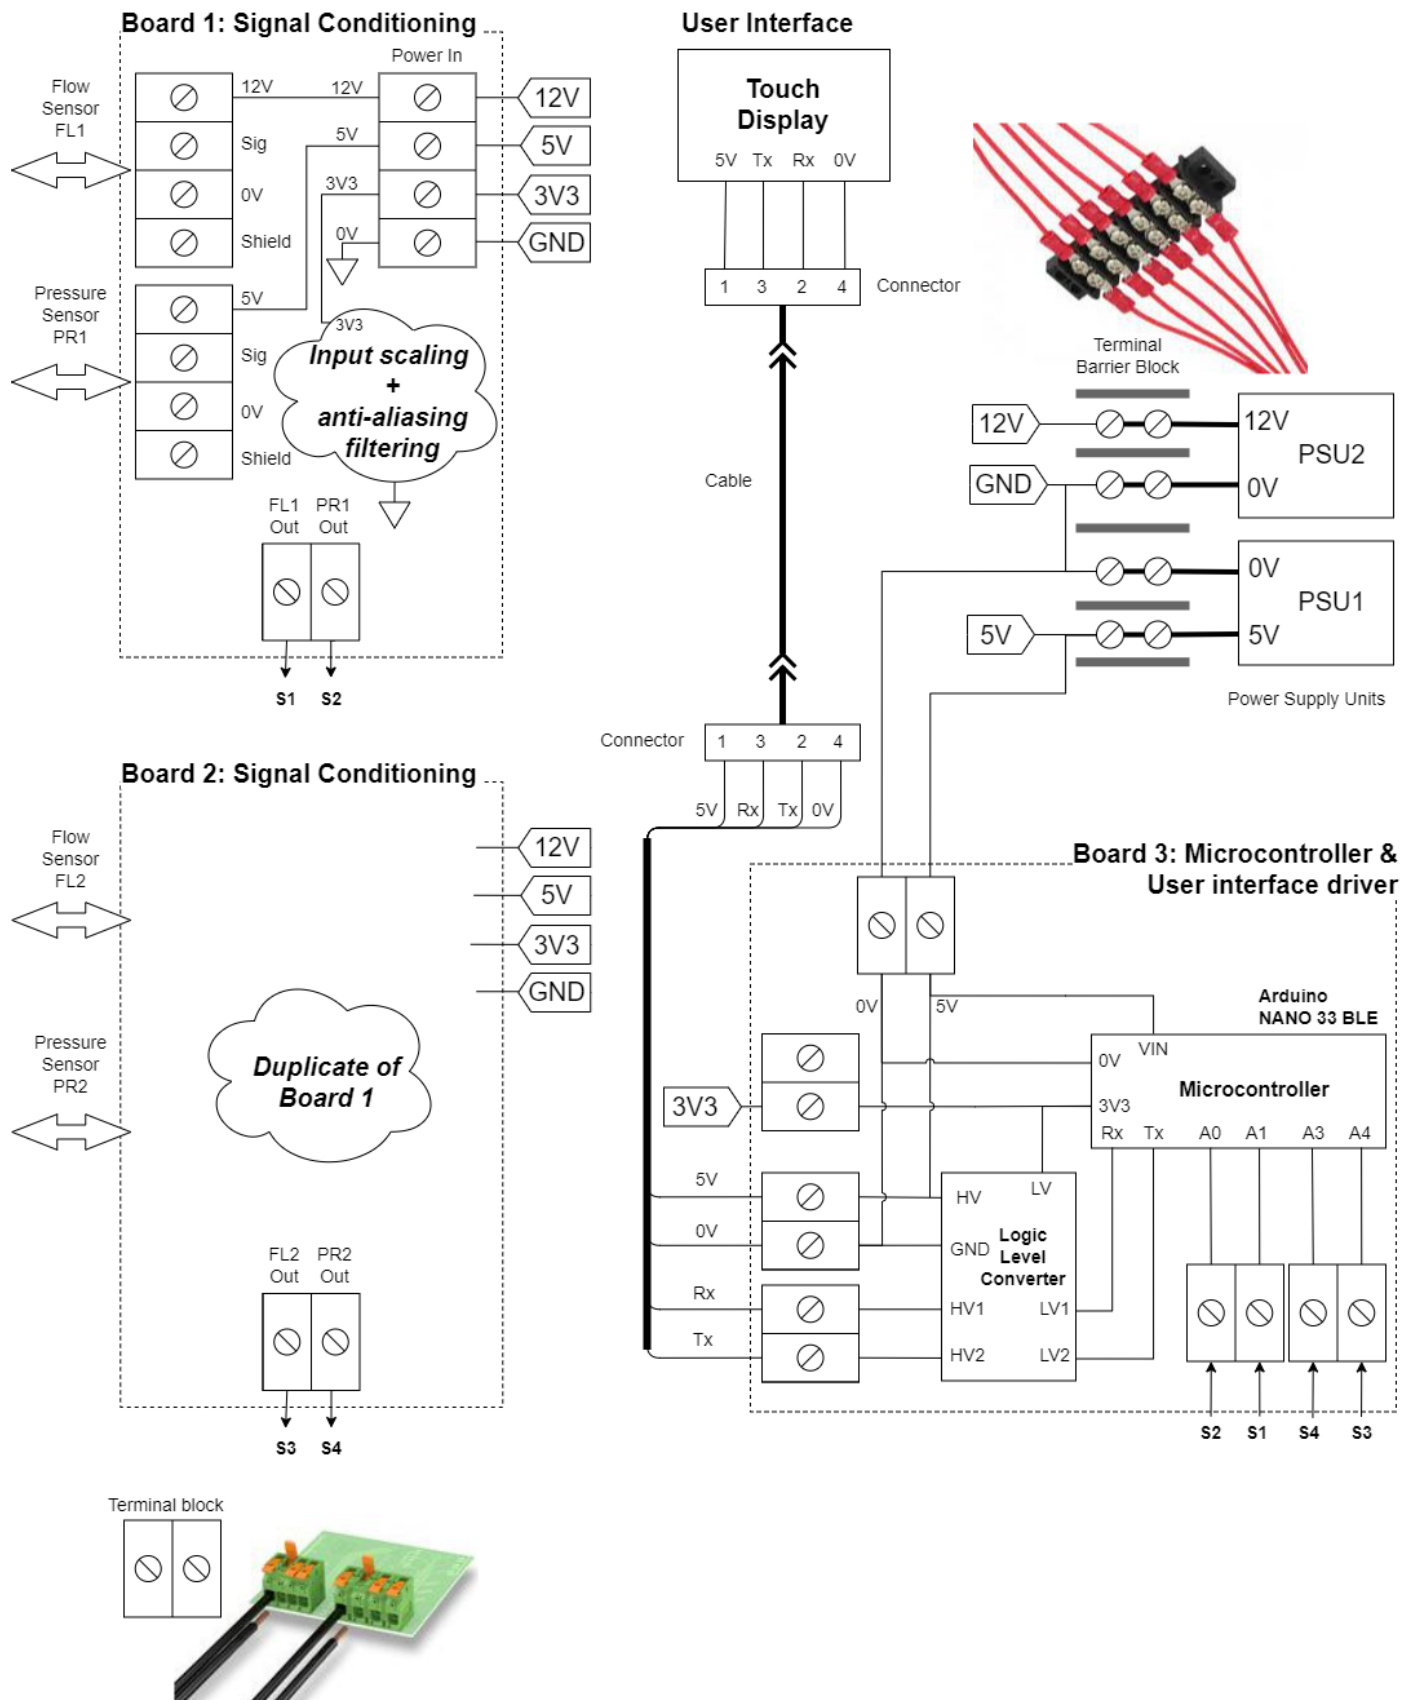

Figure 7
Figure 7 shows a high-level illustration of the instrumentation in a device that records and displays the pressure and flow of air delivered to each of two patients attached to a ventilator. The focus in the figure is power distribution. The system consists of:
**Question:** Propose a new wiring arrangement that will allow proper data acquisition. Briefly describe your analysis of the problem and your proposed solution. (If you elect to sketch something keep it simple. I do not need the same level of detail as shown in Figure 7.)